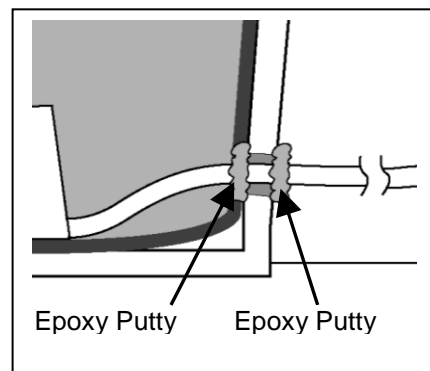

Fig. 7
7. Place the pump inside the container and run the cord through the newly drill hole. Seal the hole around the cord with epoxy putty and allow it to harden. Fig. 7